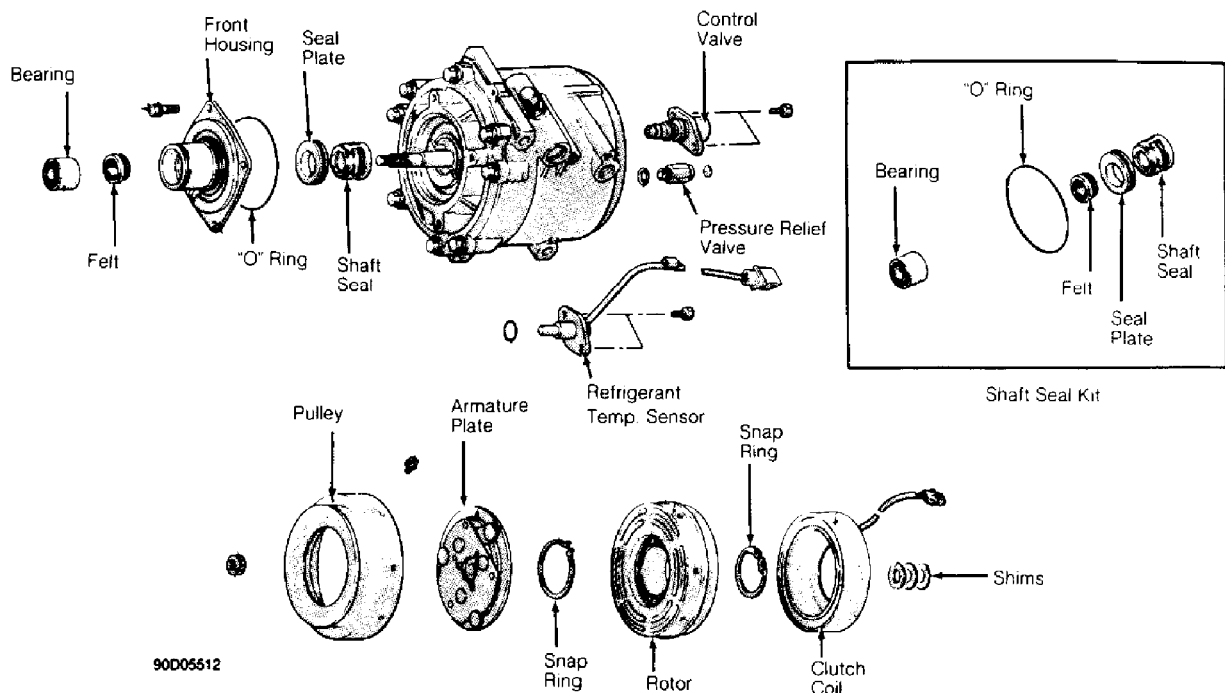

Fig. 13: Sanden Scroll Compressor
5) Use feeler gauge to measure distance between armature and clutch hub. If gap is not .01-.02" (.25-.51 mm), remove clutch assembly and add or remove shims accordingly. See Fig. 13.